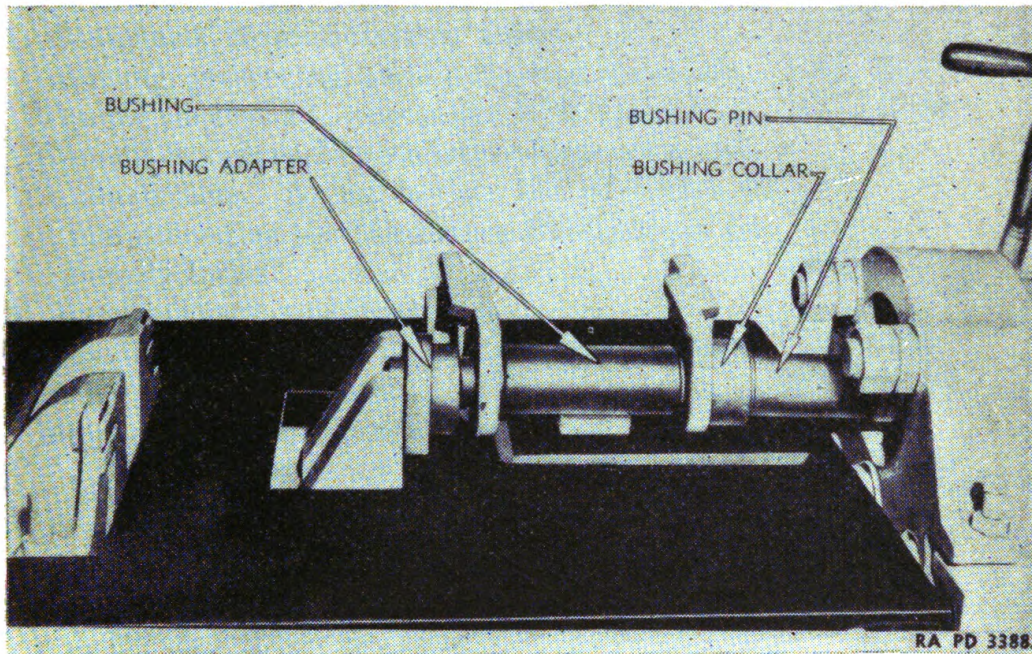

FIGURE 166.—Pressing bushing in place using bushing adapter, bushing assembly pin and bushing collar.
b. To remove press out track pins using a pin adapter and pushing pin (fig. 164.) Press bushing out of one link using jaws and bushing pusher (fig. 165.) Turn link around and then press bushing out of the single link. Press bushing in place using a bushing adapter, bushing assembly pin, and bushing collar (fig. 166).